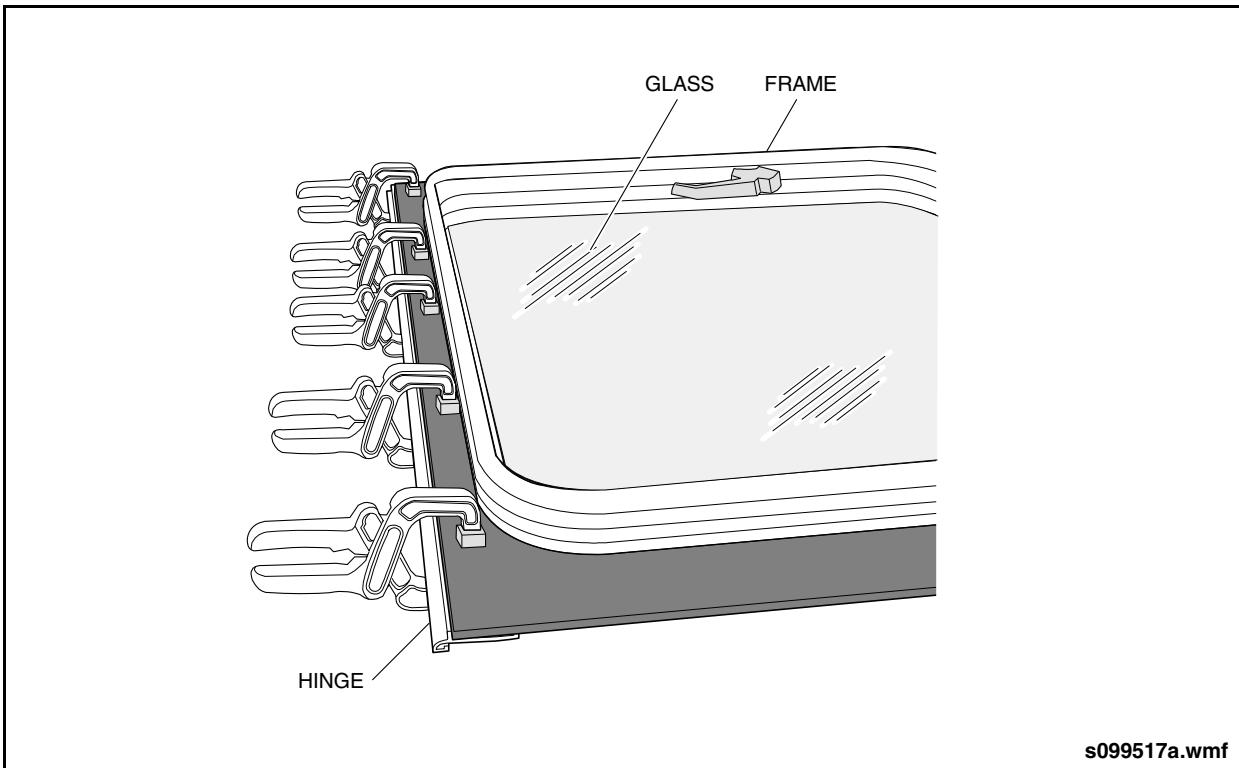

Fig. 14-21: Male Hinge Clamping
7. Clamp the male hinge into place. The clamps must be placed so that the force of the clamps does not slide the hinge away from the glass. See "Fig. 14-21: Male Hinge Clamping" on page 25.